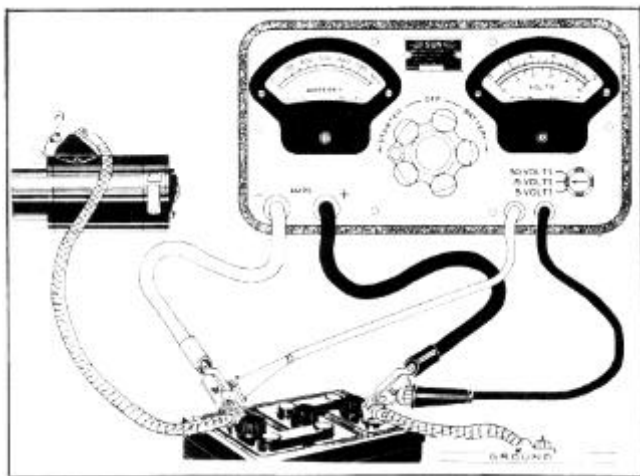

FIGURE 5
2. Turn the voltmeter "selector switch" to the 15 volt position and connect test leads, Figure 5.